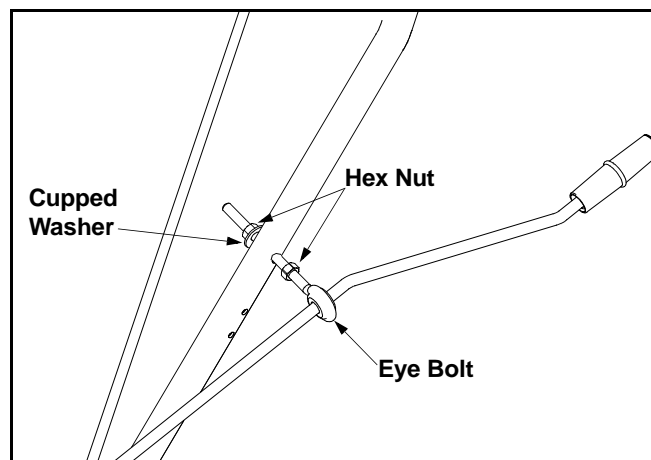

Figure 13
- Insert eye bolt through the hole provided in the left handle. See Figure 13.